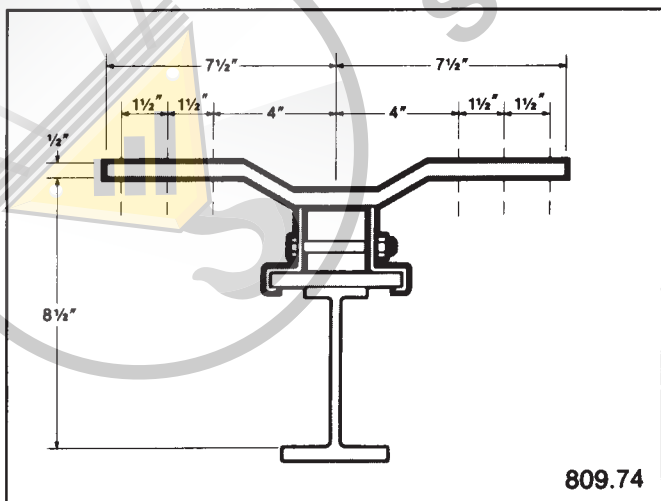

FIGURE 36
- 809.74 (Refer to Figure 36): For up to 8-wire (4-run) dual conductor bottom-entry electrification or 6-wire single conductor bottom-entry electrification at 8½" above operating flange surface of 603.7 *SuperTrack™*.